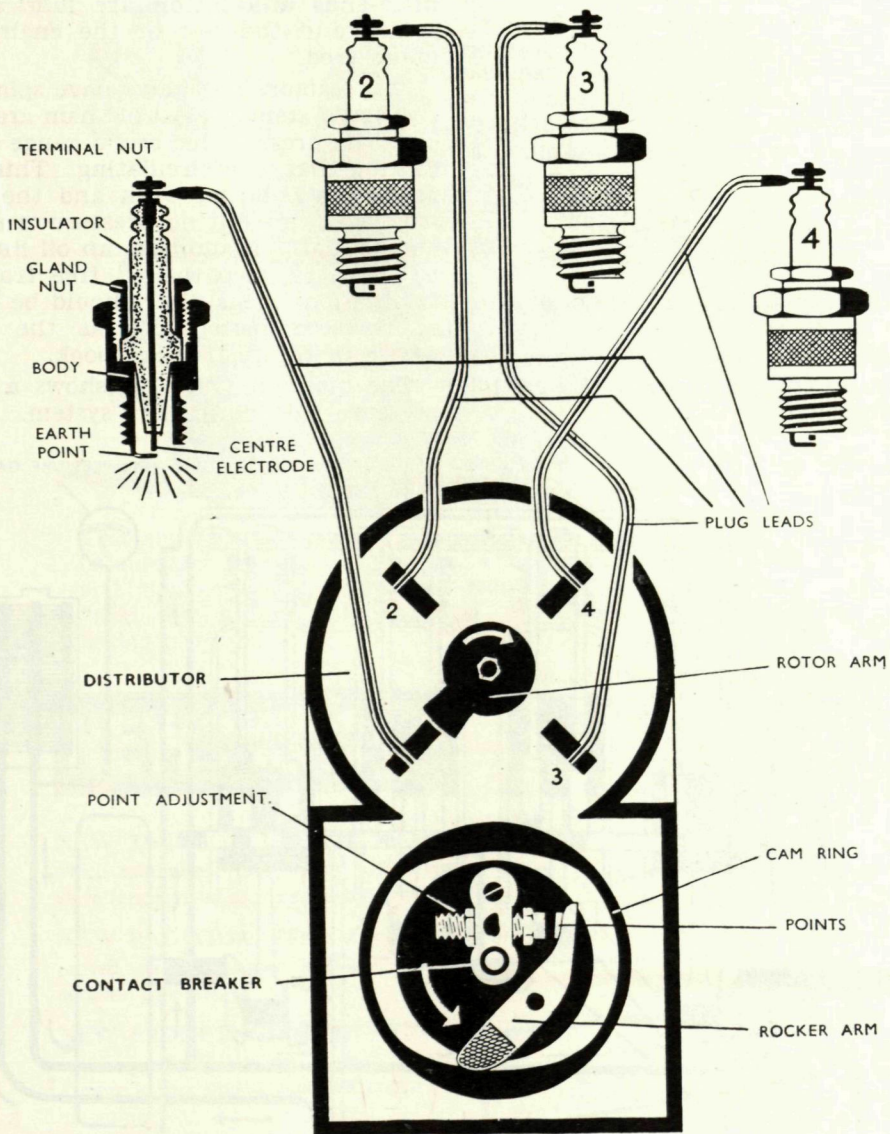

FIG. 9 THE MAGNETO
**The Magneto** produces the spark at the sparking plug which fires the mixture in the cylinders. It is a small dynamo and induction (or “shocking”) coil combined. When the end cover is taken off, the inside will look something like the diagram in Fig. 9. This shows the moment at which a spark is produced at the sparking plug in No. 1 cylinder. A spark is produced whenever the points of the contact breaker open, which occurs each time the end of the rocker arm passes the cams on the stationary cam ring. The spark appears